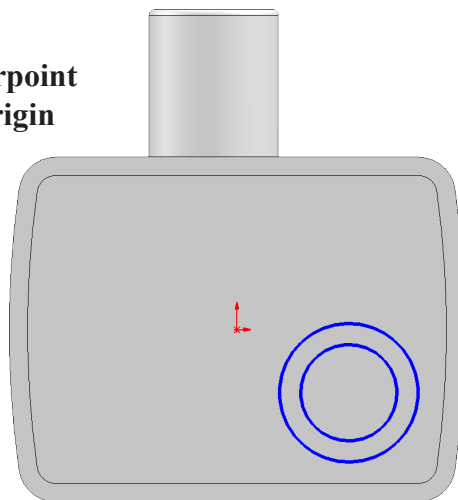

Fig. 31
Step 4. Sketch **two concentric circles to right of the Origin** , **Fig. 31**.